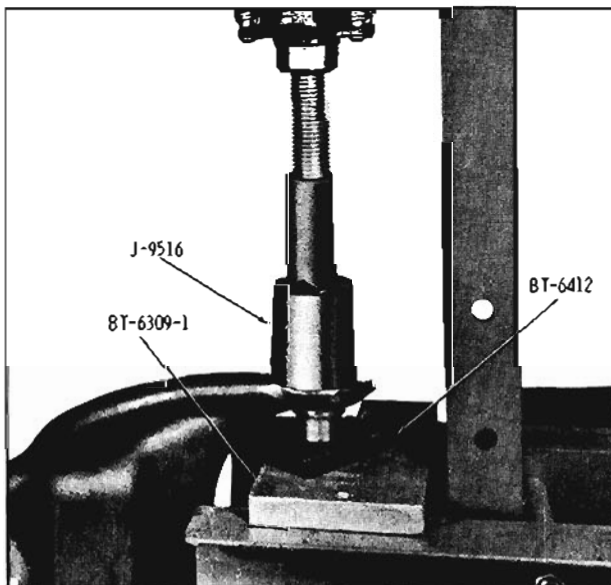

Fig. 9-15 Upper Control Arm Bushing Removal
3. Position control arm assembly and tools in a press as shown in Fig. 9-15 and press bushing out of control arm.